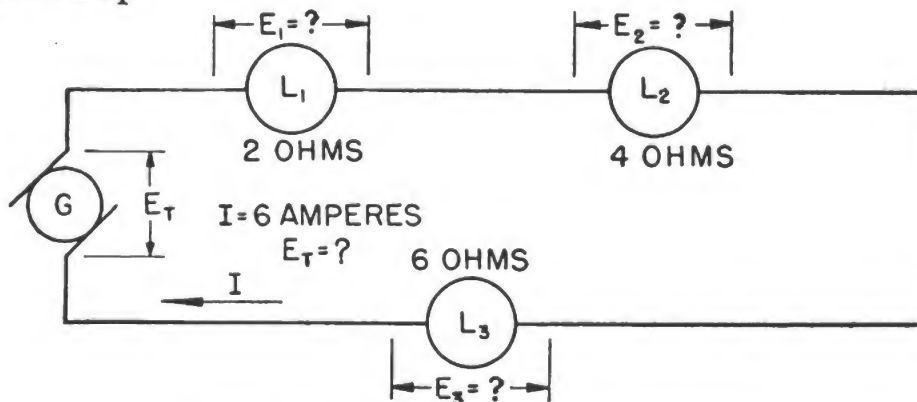

Figure 16.—Another series circuit problem.
2. The series circuit illustrated in figure 16 is carrying 6 amperes of current and contains 3 lamps of 2, 4, and 6 ohms. What is the applied voltage? What is the IR drop across each lamp?